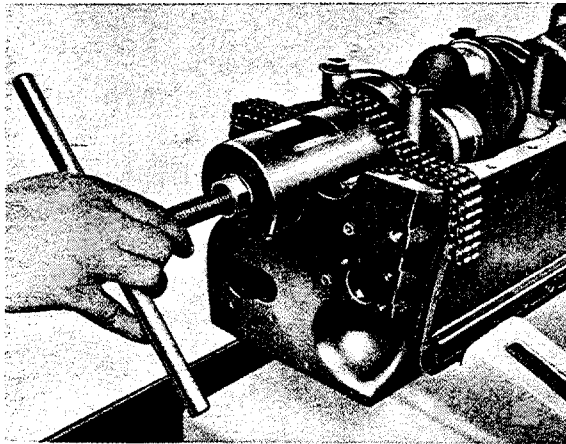

Fig. M 3/36
36. After turning out the collar screw, pull front counterweight off crankshaft. Take off grease retainer and oil thrower. Pull crankshaft sprocket with tool 187 589 00 33 (Fig. M 3/36) and remove spacer ring.